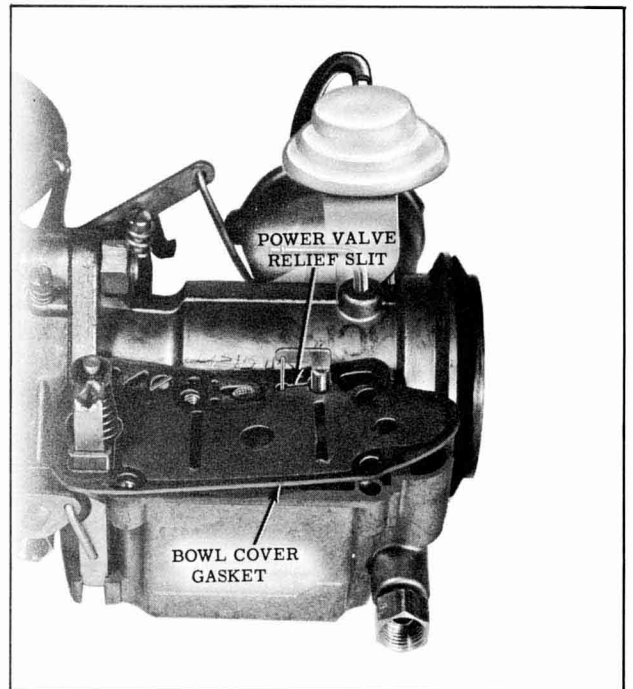

Fig. 9-130 Bowl Cover Gasket
1. Install float bowl cover gasket, pushing slotted section over power piston and metering rod assembly, locating gasket on lugs on side of float bowl. (Fig. 9-130)
2. Install float bowl cover retaining in place with three (3) attaching screws.